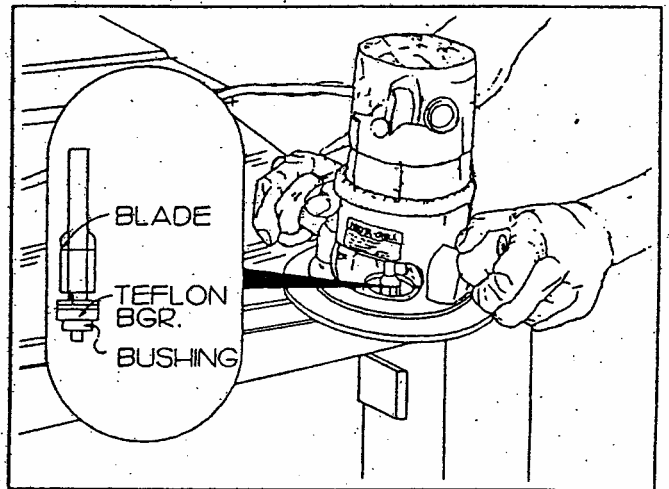

Figure 11
1. Rout the edges using a flush-cut router carbide bit. Because of its thickness, decorative acrylic takes more time to rout than laminates, therefore do NOT rush. See Figure 11.